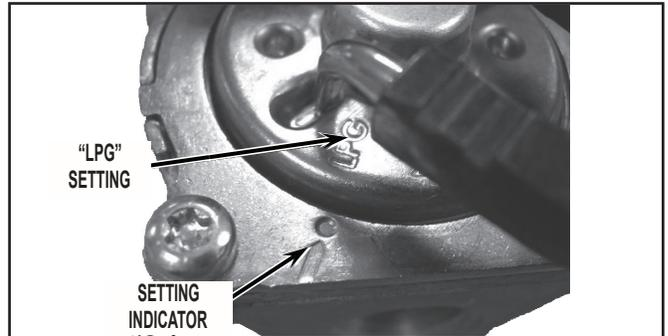

FIGURE 26
30. Rotate cover dial 25 degrees counter clockwise lining up "LPG" marking with the indicator on the gas valve. See *Figure 26*.